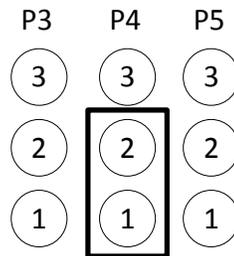

Figure 3.1. Jumper Setting for I²C Booting
2. To allow booting from I²C, power OFF the USB3-GbE VIP IO board and set the jumpers as shown in Figure 3.1.